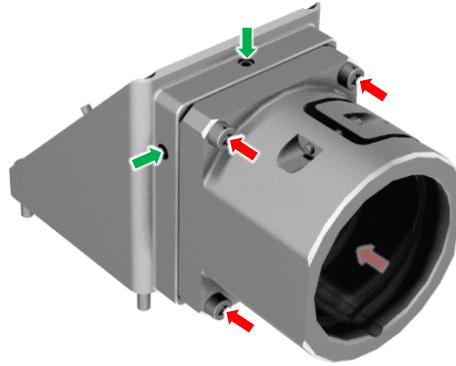

Figure 13: Adjusting for offset misalignment at the LIA
- ii. Loosen the 4 fixing-screws; see Figure 13 on page 50, **red** arrows.
- iii. Use the adjusting screws; see Figure 13 on page 50, **green** arrows; to bring the laser beam to the thermopile center.
15. Tighten the 4 fixing-screws, highlighted by **red** arrows in Figure 13 on page 50.